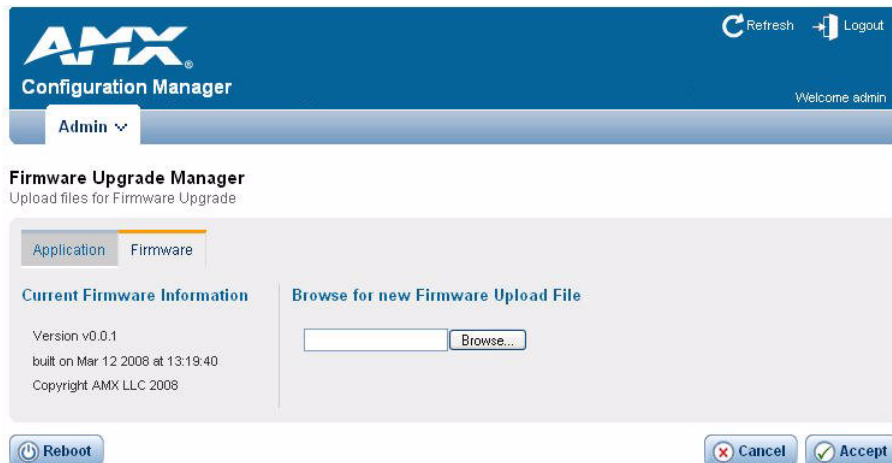
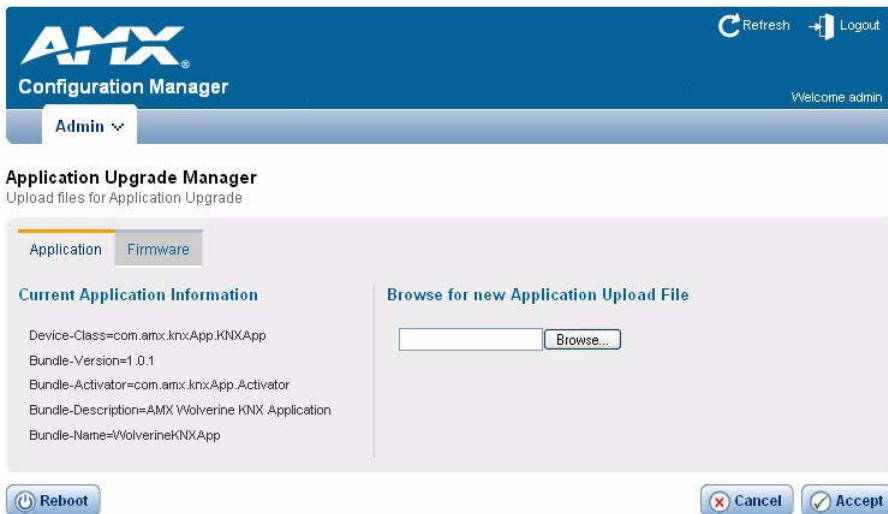

FIG. 33 Firmware Upgrade Manager page
FIG. 34 Application Upgrade Manager page
The initial release of the NXB-KNX operated as an IP Device (as opposed to a native NetLinX device). As an IP device, the process of upgrading the unit to the latest firmware involves upgrading both the device Application and the Firmware, via options in the *Firmware Upgrade Manager* (see FIG. 33 on page 41) and the *Application Upgrade Manager* pages (see FIG. 34 on page 42).
There are two aspects of the NXB-KNX that can be upgraded: the device Firmware and device Application, both of which are normally updated via options in the *Firmware Upgrade Manager* (see FIG. 33 on page 41) and *Application Upgrade Manager* pages (see FIG. 34 on page 42). However, special steps are required to perform an initial upgrade from early versions of the NXB-KNX Application and Firmware.
Select **Firmware Upgrade** from the Admin menu to open the *Firmware Upgrade Manager* page (FIG. 33). Use the options on the page to upgrade the firmware on this NXB-KNX unit.
1. Select **Firmware Upgrade** from the Admin drop-down menu to open the *Firmware Upgrade Manager* page (FIG. 33 on page 41).
Information on the current application version loaded on the device is displayed in the *Application Upgrade Manager* page (FIG. 34).
1. Select **Application Upgrade** from the Admin drop-down menu to open the *Application Upgrade* page (FIG. 34 on page 42).